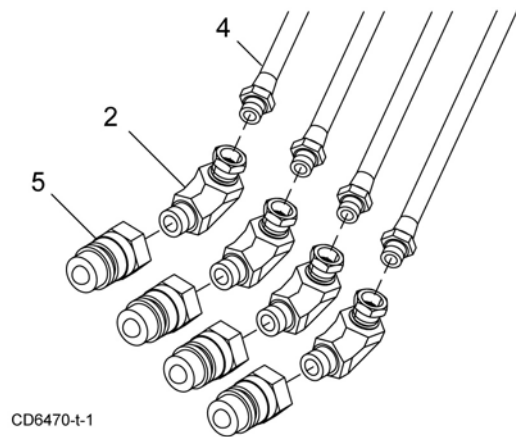

Figure 34. Loader Hose Connection
1. Attach male half of quick coupler set (5) and elbow (2) to each of the loader feedline hoses (4). See Figure 34